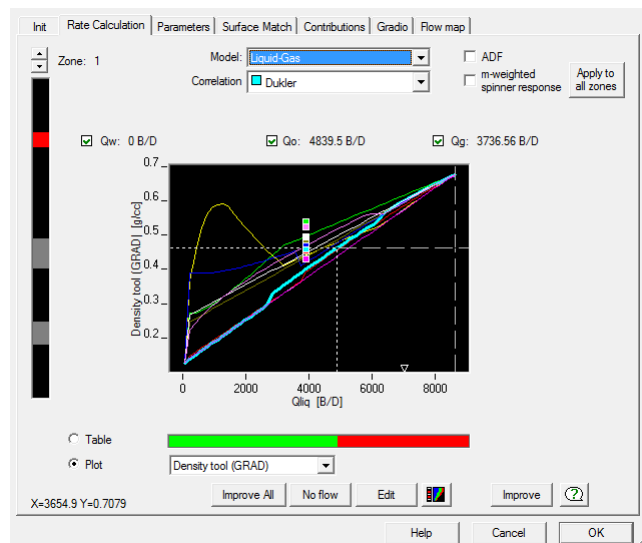

Fig. B01.41 • Top zone; Plot mode
- Return to the 'Rate Calculation' tab, and if the Plot is not currently displayed, select this mode. Make sure also that you are looking the top zone, Fig. B01.41.